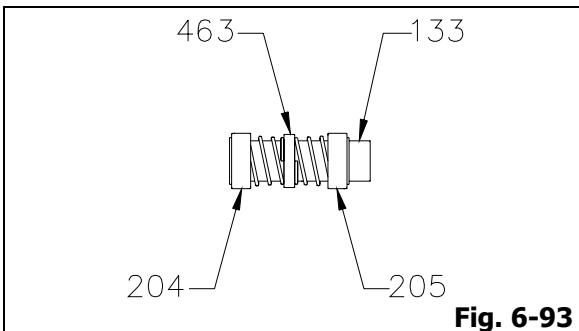

Fig. 6-93
7. Install abutment ring (463) onto shaft sleeve (133) until abutment ring (463) reach the abutment ring location marking which has been made on shaft sleeve (133) during disassembly, and install two (2) abutment ring jam nuts into abutment ring (463).
8. Coat shaft sleeve (133) surface with oil, slide the rotary portion of pump end and atmospheric end mechanical seal (204 and 205) carefully onto shaft sleeve (133) by hand until the end of mechanical seals (204 and 205) are fully seated on abutment ring (463) (Fig. 6-93).